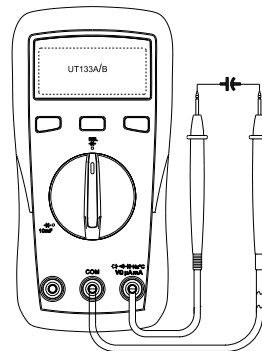

Figure 3
5. Capacitance measurement (see figure 3)